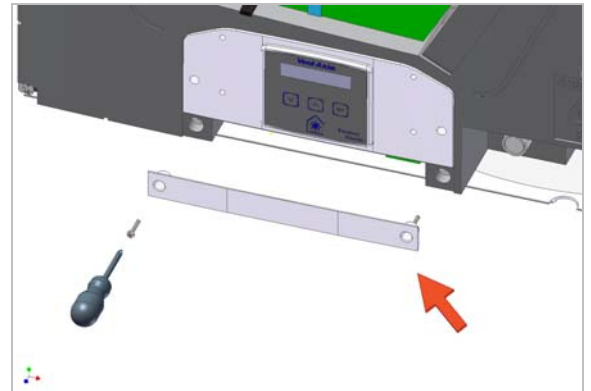

Figure 5: Detaching the Electrical Cover (Front of Unit)
2. Remove the 2 screws and detach the Electrical Cover from the front of the unit (see *Figure 5*).